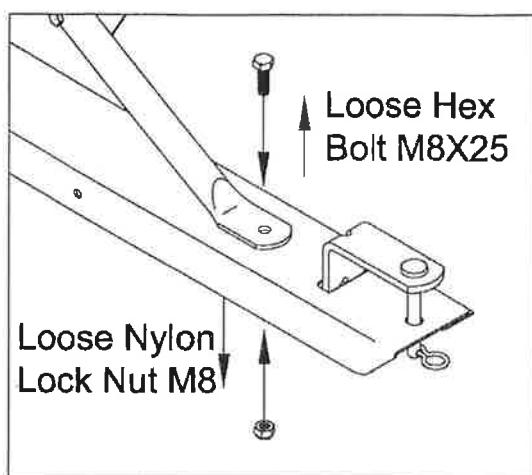

Figure 5
3. Loose the Hex Bolt M8x25 and Nylon Lock Nut M8 from the Hitch Tongue. Fix the other end of the Flow Control Handle to the hole on Hitch Tongue, fix it by using the removed Hex Bolt M8x25 and Nylon Lock Nut M8. See Figure 5 & 6.